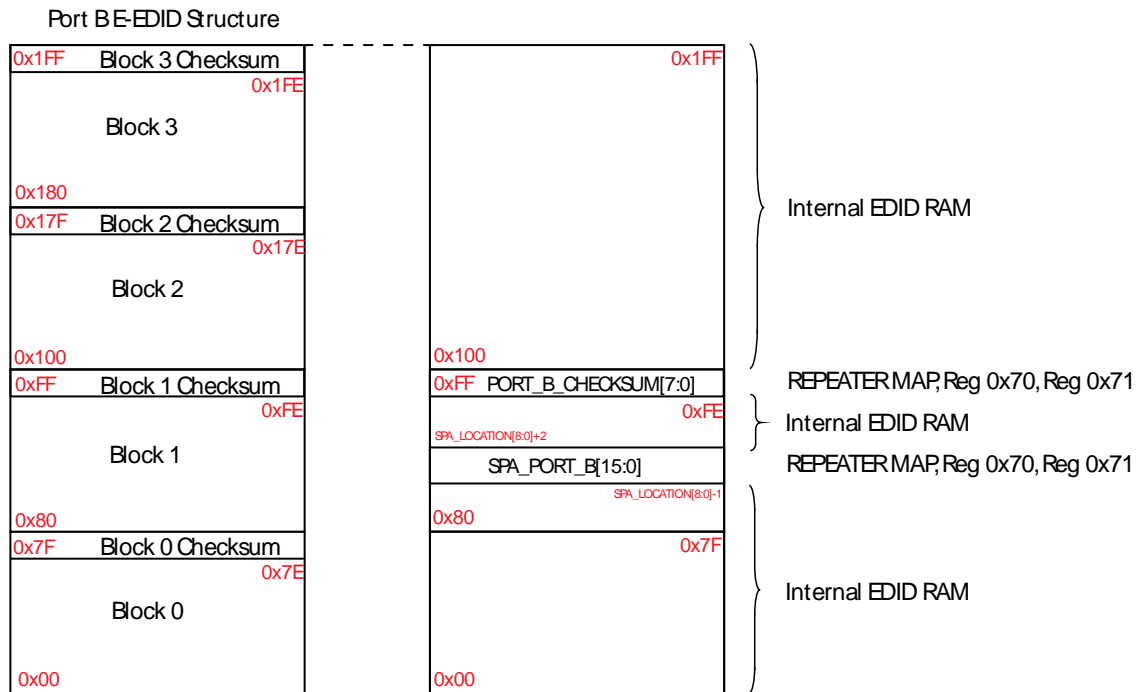

Figure 67: Port B E-EDID Structure and Mapping for SPA Located in E-EDID Block 1
- Figure 67 – SPA located in E-EDID block 1